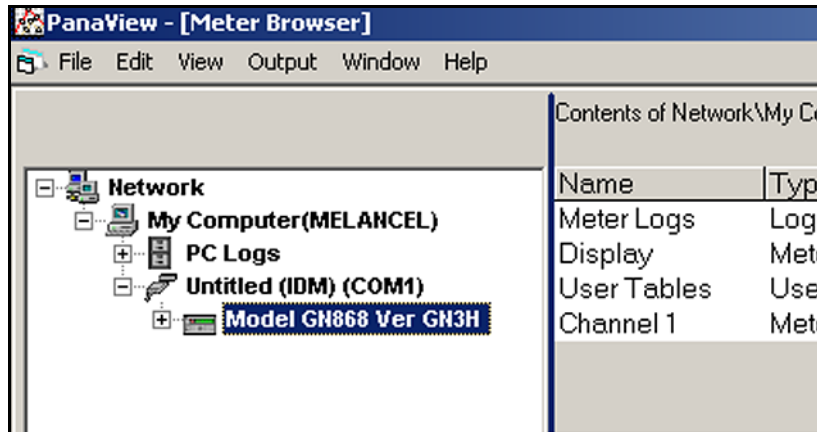

Figure 23: Updated Network Tree
If the initialization is successful, the Meter Browser shows a listing similar to Figure 23 below.
1. Highlight the meter (as shown in *Figure 23* on page 99).